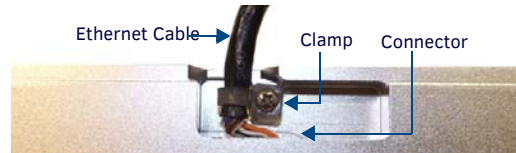

FIG. 3 BOTTOM OF THE MXT-1000
In installations where you wish to conceal the Ethernet cable, a hole at least 1.00" (2.54 cm) in diameter is required in the surface to allow passage of the female RJ45 connector (FIG. 3).
2. Remove the clamp holding the Ethernet cable (FIG. 3).